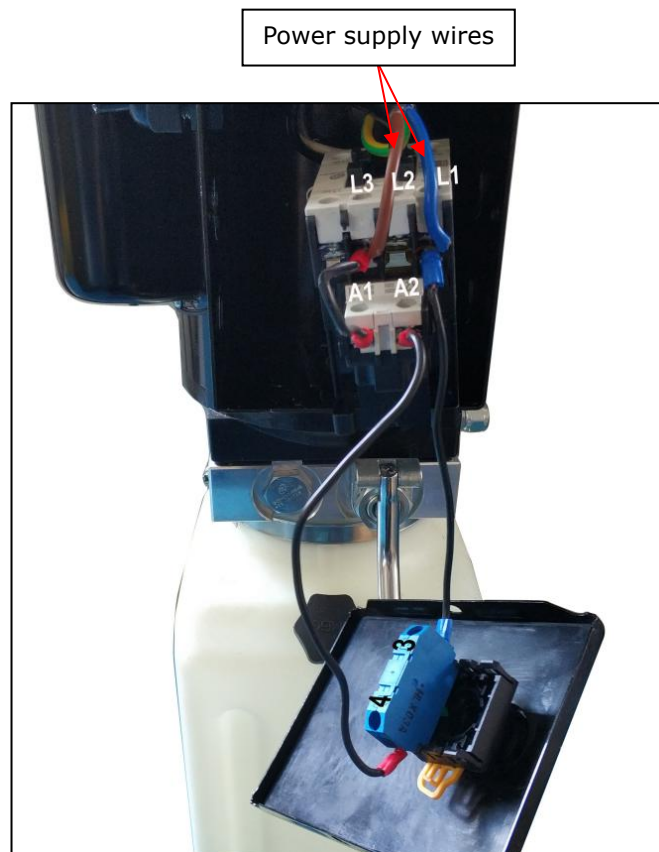

**Fig.8**
1. Circuit diagram (See Fig. 8)